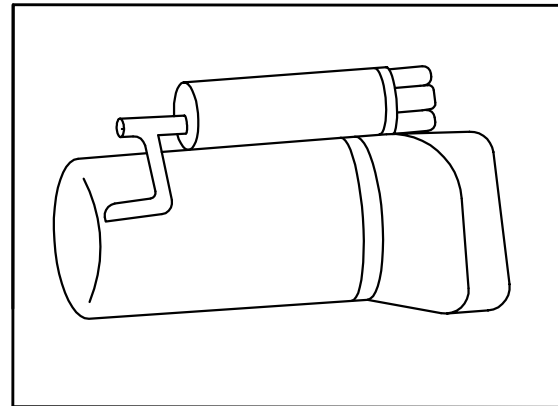

Fig.5-31
Elektropokretač (Anlaser) Fig.5-31
5.56 Alternator (Fig. 5.31)